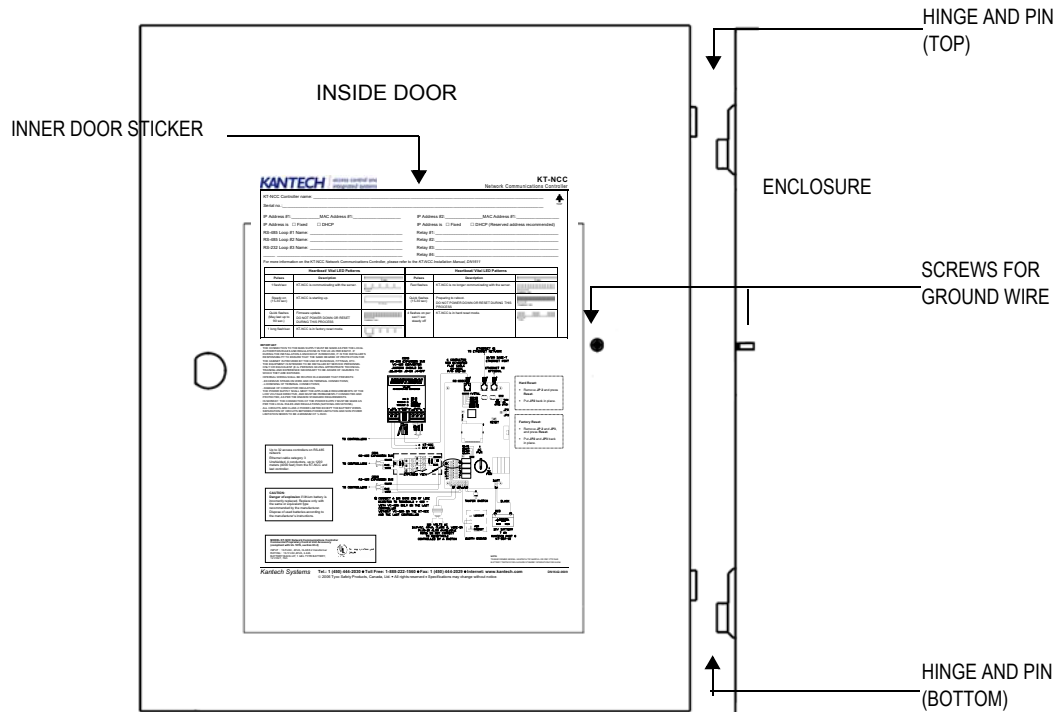

Figure 2. Enclosure Door and Hinge
1. Remove the ground wire from the screw on the door (see Figure 2 below).